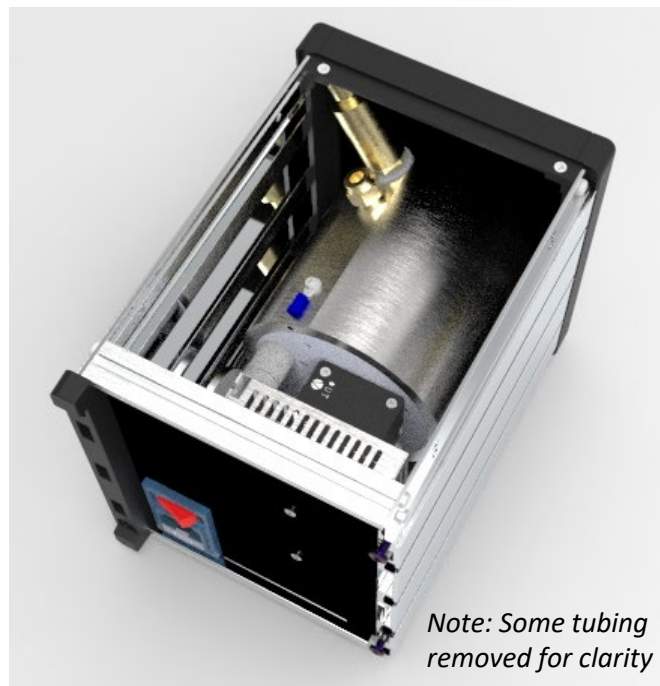

Figure 8: Open Unit
- c. Slide out the metal top of the box, leaving enough room for radio to get into the electronics. See *Figure 8*.